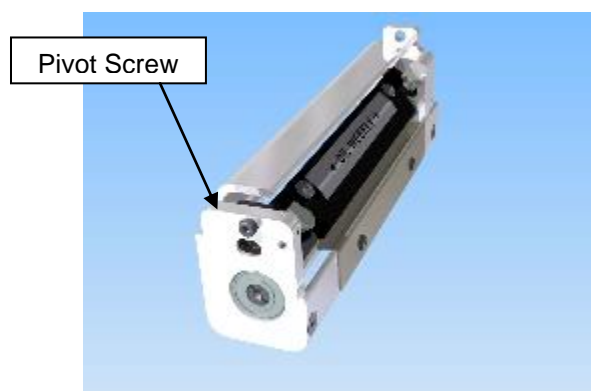

Figure 19a. Loosening Outer Pivot Screw
2. Remove the knife assembly from the printer as described in Section 5.4.1. Refer to Figures 19a and 19b.
3. Loosen the outer pivot screw by making one complete turn (see Fig. 19a).